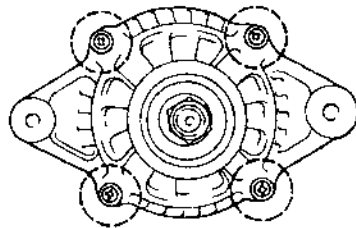

Figure 6.1-6
(2) Disassemble the casing bolts from the alternator. See Figure 6.1-6.